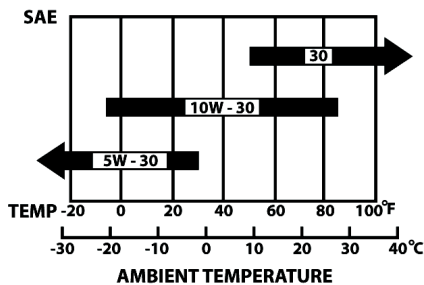

FIGURE 17: Recommended Oil Viscosity
SAE 10W-30 is recommended for general temperature use. Refer to Figure 17 for information on other viscosities that may be used. Other viscosities shown in chart may be used when average temperature in your area is within indicated range.
- Unused engine oil (SAE type indicated in Figure 17)
12. Pour new (unused) engine oil into oil fill hole. (See Figure 17 for recommended oil type). Do not overfill.